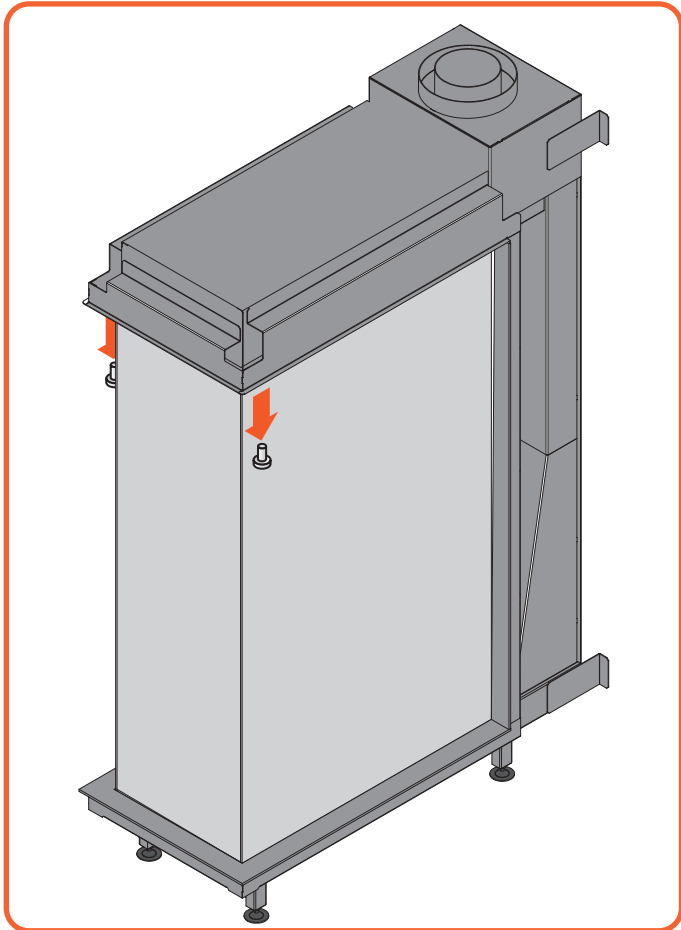
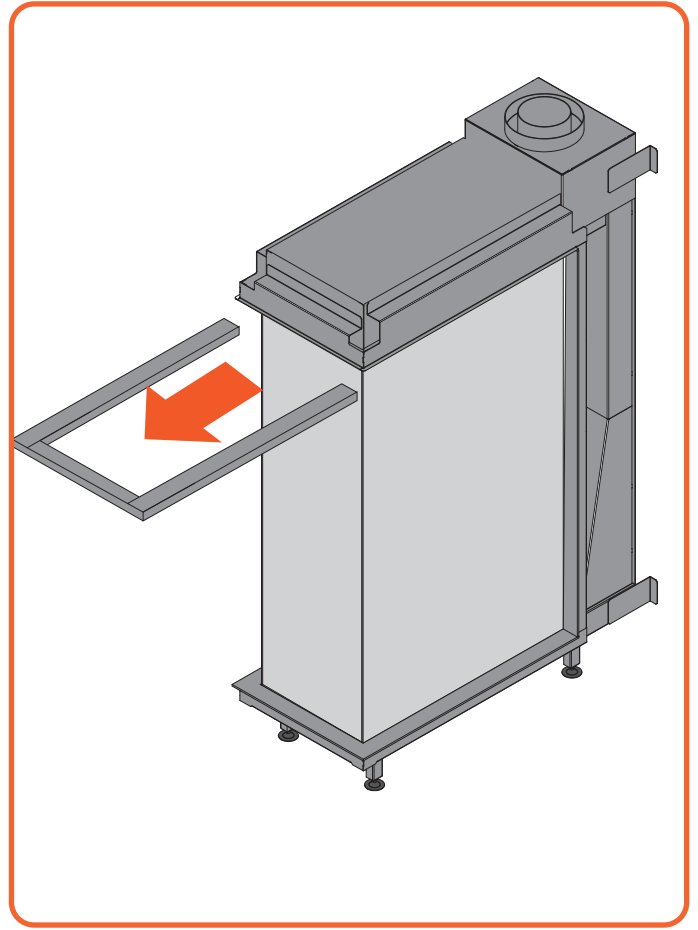

Figure 12.2 | Unscrew top trim
Figure 12.3 | Remove top trim
- Unscrew the top trim and remove it, See Figure 12.2 & Figure 12.3.